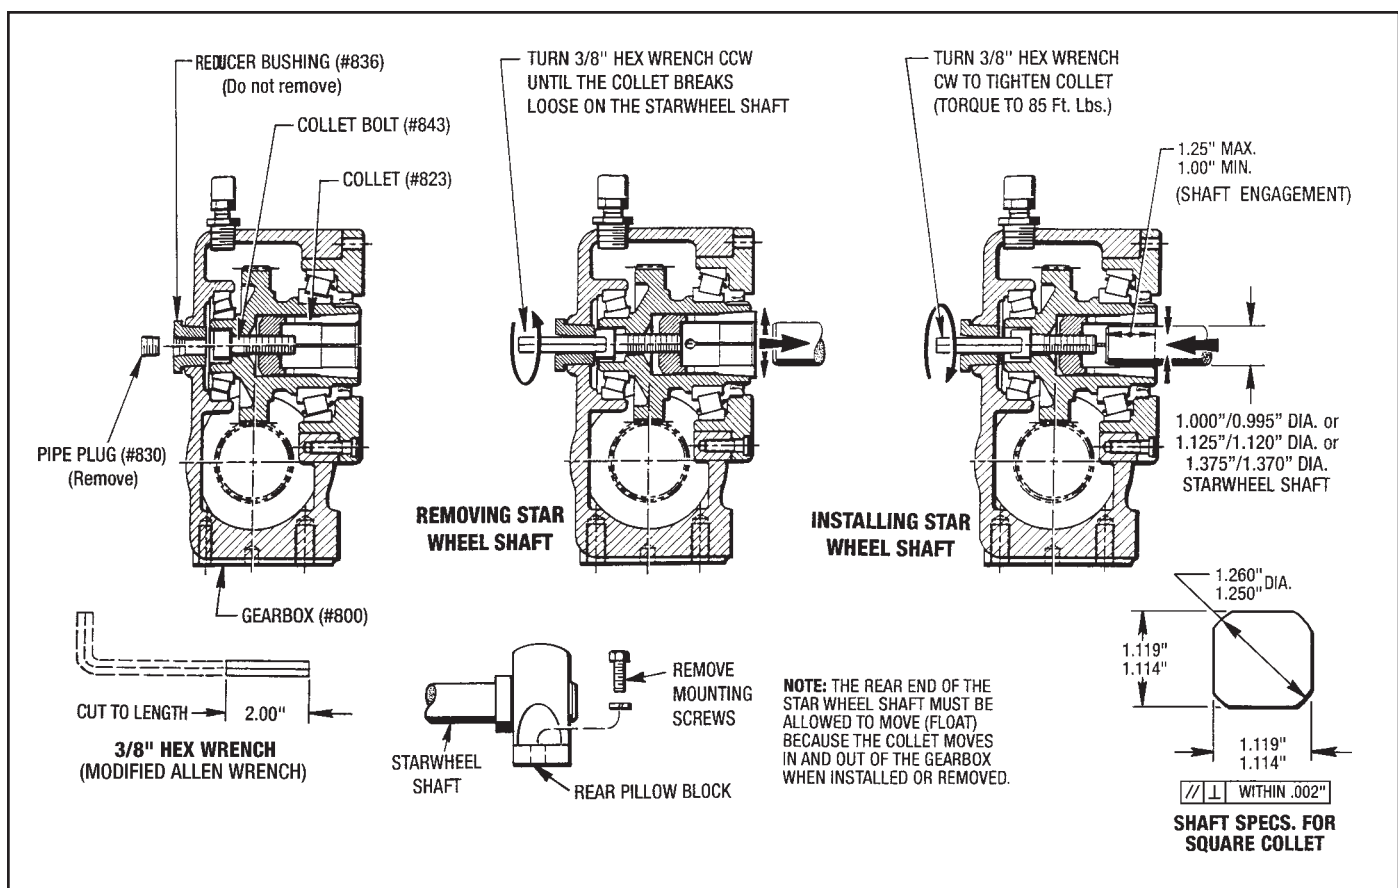

Figure 2.2 - Installing Starwheel into the Gearbox Collet
(See Figures 2.2 and 7.4)
3. Loosen the Collet Bolt (#843) using a modified 3/8" allen wrench as shown in Figure 2.2. Loosen enough so that the collet extends beyond the bearing retainer when pushing on the collet bolt.
(See Figure 2.2)
2. Remove the Rear Pillow Block Mounting Screws as shown in Figure 2.2.